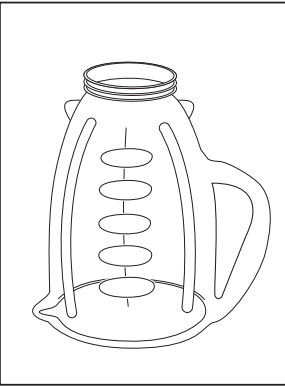

FIGURE 1
2. Turn jar upside down so the small opening is at the top. *(Figure 1)*